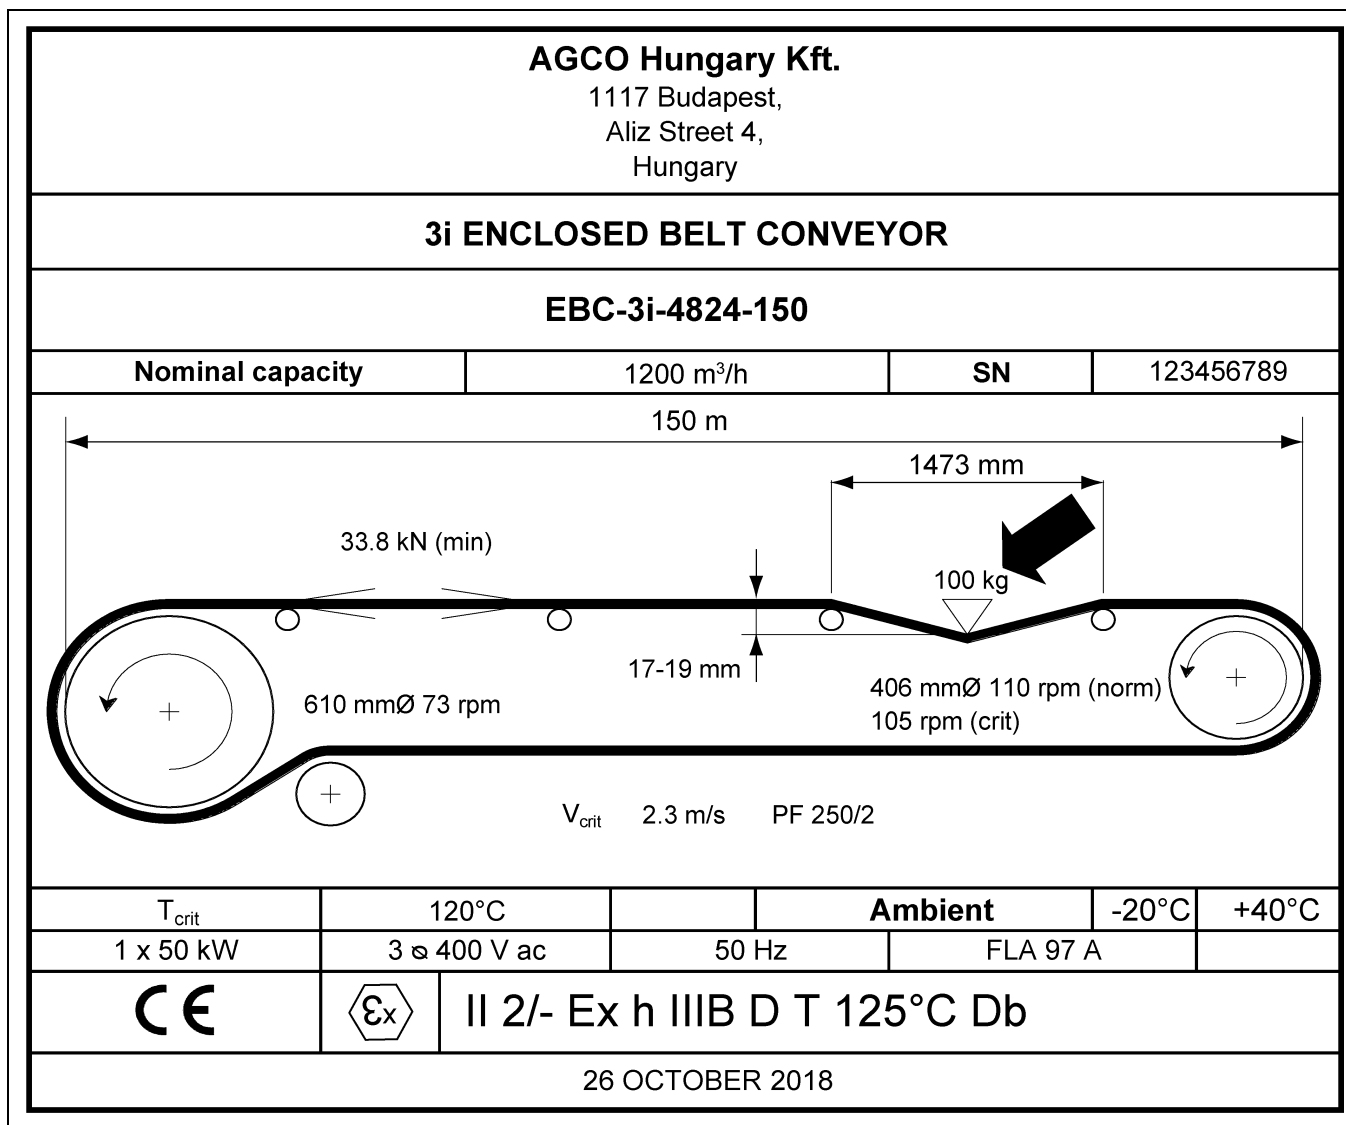

Figure 2B
2. Correct pre-tension of the belt is achieved when the test weight of 100 kg, applied mid-span of the idling roller and directly across the full width of the belt, provides a deflection in accordance with that shown on your rating plate. (See Figure 2B.)